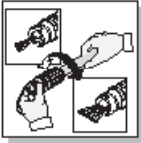
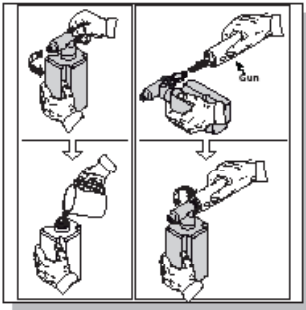
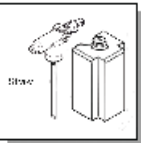

Fig. 8
Fig. 9
Fig. 10
- When using the adjustable spray lance, the spray pattern and intensity can be controlled according to power of water needed for each task by twisting the spray nozzle at the far end of the lance (Fig. 8). These can be used for sweeping leaves or debris from flat surfaces or curbing. This lance has the widest variety of applications as the fan degree allows for good impact pressure and cleaning coverage. When using the detergent bottle, fill it with a properly formulated detergent or cleaner with water ratio according to instructions on the container (Fig. 9). The detergent bottle comes with a straw which is fitted into the screw-on top. If you do not see the straw, looking inside the bottle and attach it to the screw-on top (Fig. 10).